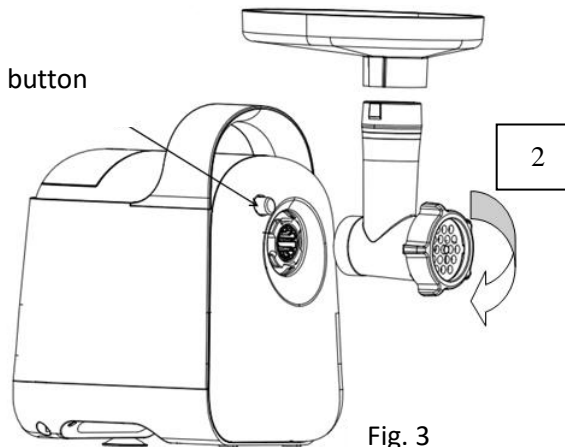

Fig. 3
8. When finish blending, unplug to the power source. Disassemble the ream meat tube assembly: press down release button properly with thumb of left hand (see arrow 1 of Fig. 3), turn the ream meat tube assembly clockwise with right hand then remove them (see arrow 2 of fig. 3).